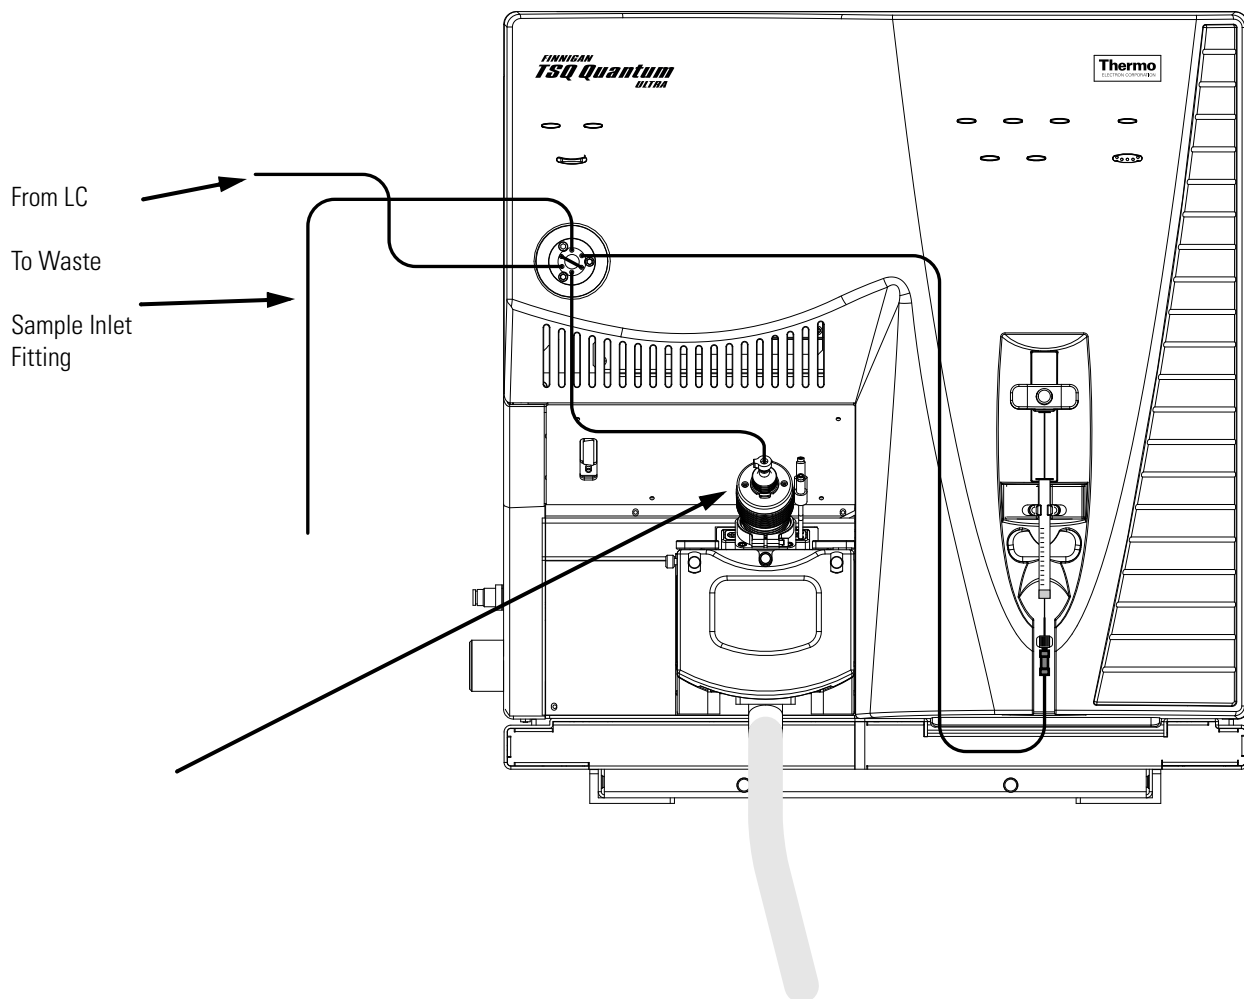

Figure 34. APCI/MS plumbing connections for sample introduction by auto loop injection into the solvent flow from an LC
The following procedure describes how to introduce your compound by auto loop injection. The plumbing connections for APCI/MS sample introduction from the syringe pump into the solvent flow from an LC are shown in Figure 34.
- c. Connect the other end of the tubing with a Fingertight fitting and a ferrule to the sample inlet fitting (LC inlet) (Figure 34).